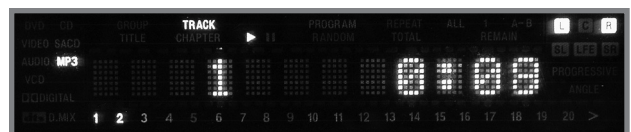

Figure 25
1. Press the PLAY ► Push-button to start Playback. Refer to figure 25. After all the tracks have been played the MCD201 will stop.